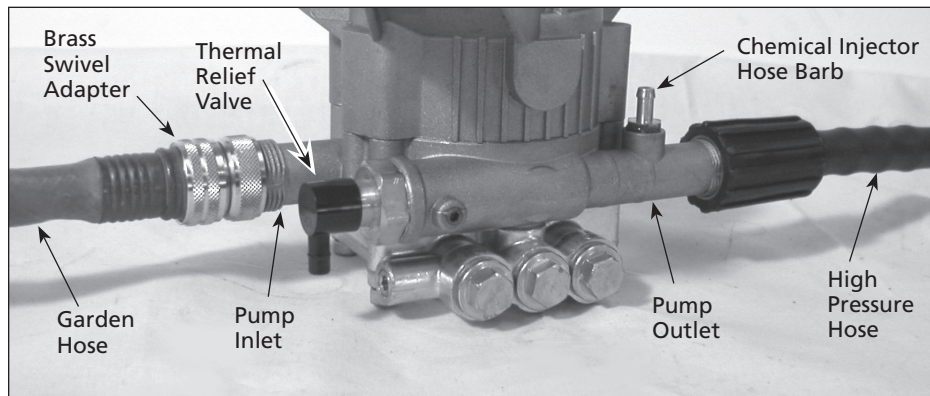
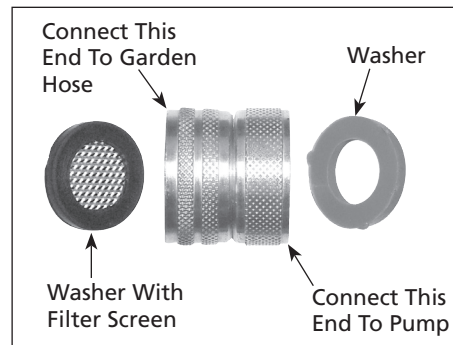
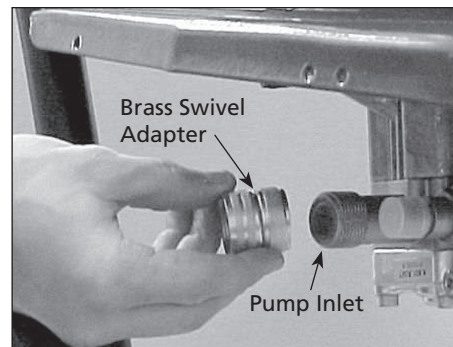

Figure 2 - Pump hook up
Figure 3 - Brass swivel adapter
Figure 4 - Connect the brass swivel to the pump
1. Attach clear plastic tube to barb on pump (see Figure 2 on page 5).
2. **Brass Swivel Adaptor** (See Figure 2). If it's not already attached to the pump inlet, assemble the brass swivel adaptor and attach it to the pump inlet (See Figure 3 and Figure 4). Be sure to connect the correct side of the brass swivel adaptor to the pump.
4. Connect the high pressure hose to the pump outlet (See Figures 2 and 5).